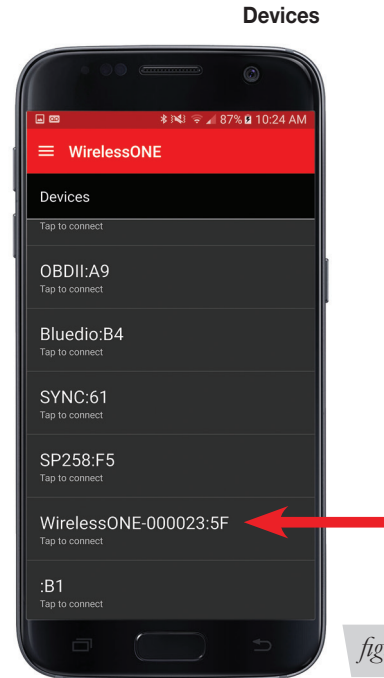

fig. D.2
3. The app will automatically go to the devices screen if no connected manifold is detected. Click on the device you want to pair. The manifold will have WirelessOne in the title. Each device also shows the connection status (Fig. D.2).